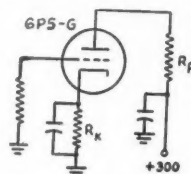
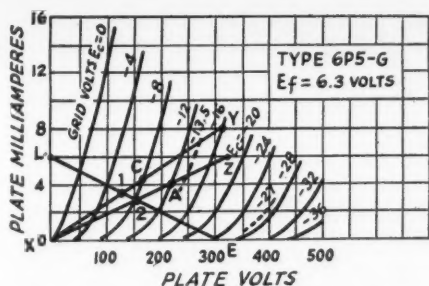

Fig. 3—Reference circuit for illustrating the case of changing R_k , holding R_p constant.
Fig. 4 — Average plate characteristics for the type 6P5G tube.
Using the schematic and characteristic curves of Fig. 3 and Fig. 4,
4) The effect of increasing the cathode resistance also is shown in Fig. 4. In this case points *A* and *Z* are located first. Assuming a bias of -18 volts, the plate-current point is found to be 18 divided by 3000, or 6 ma., and assuming a bias of -12 volts the plate-current point is found to be 12 divided by 3000, or 4 ma. Locate these points on the graph and draw the bias line through them. The intersection of the bias line and load line, point 2, represents the operating point of the stage with a 3000-ohm cathode resistor.